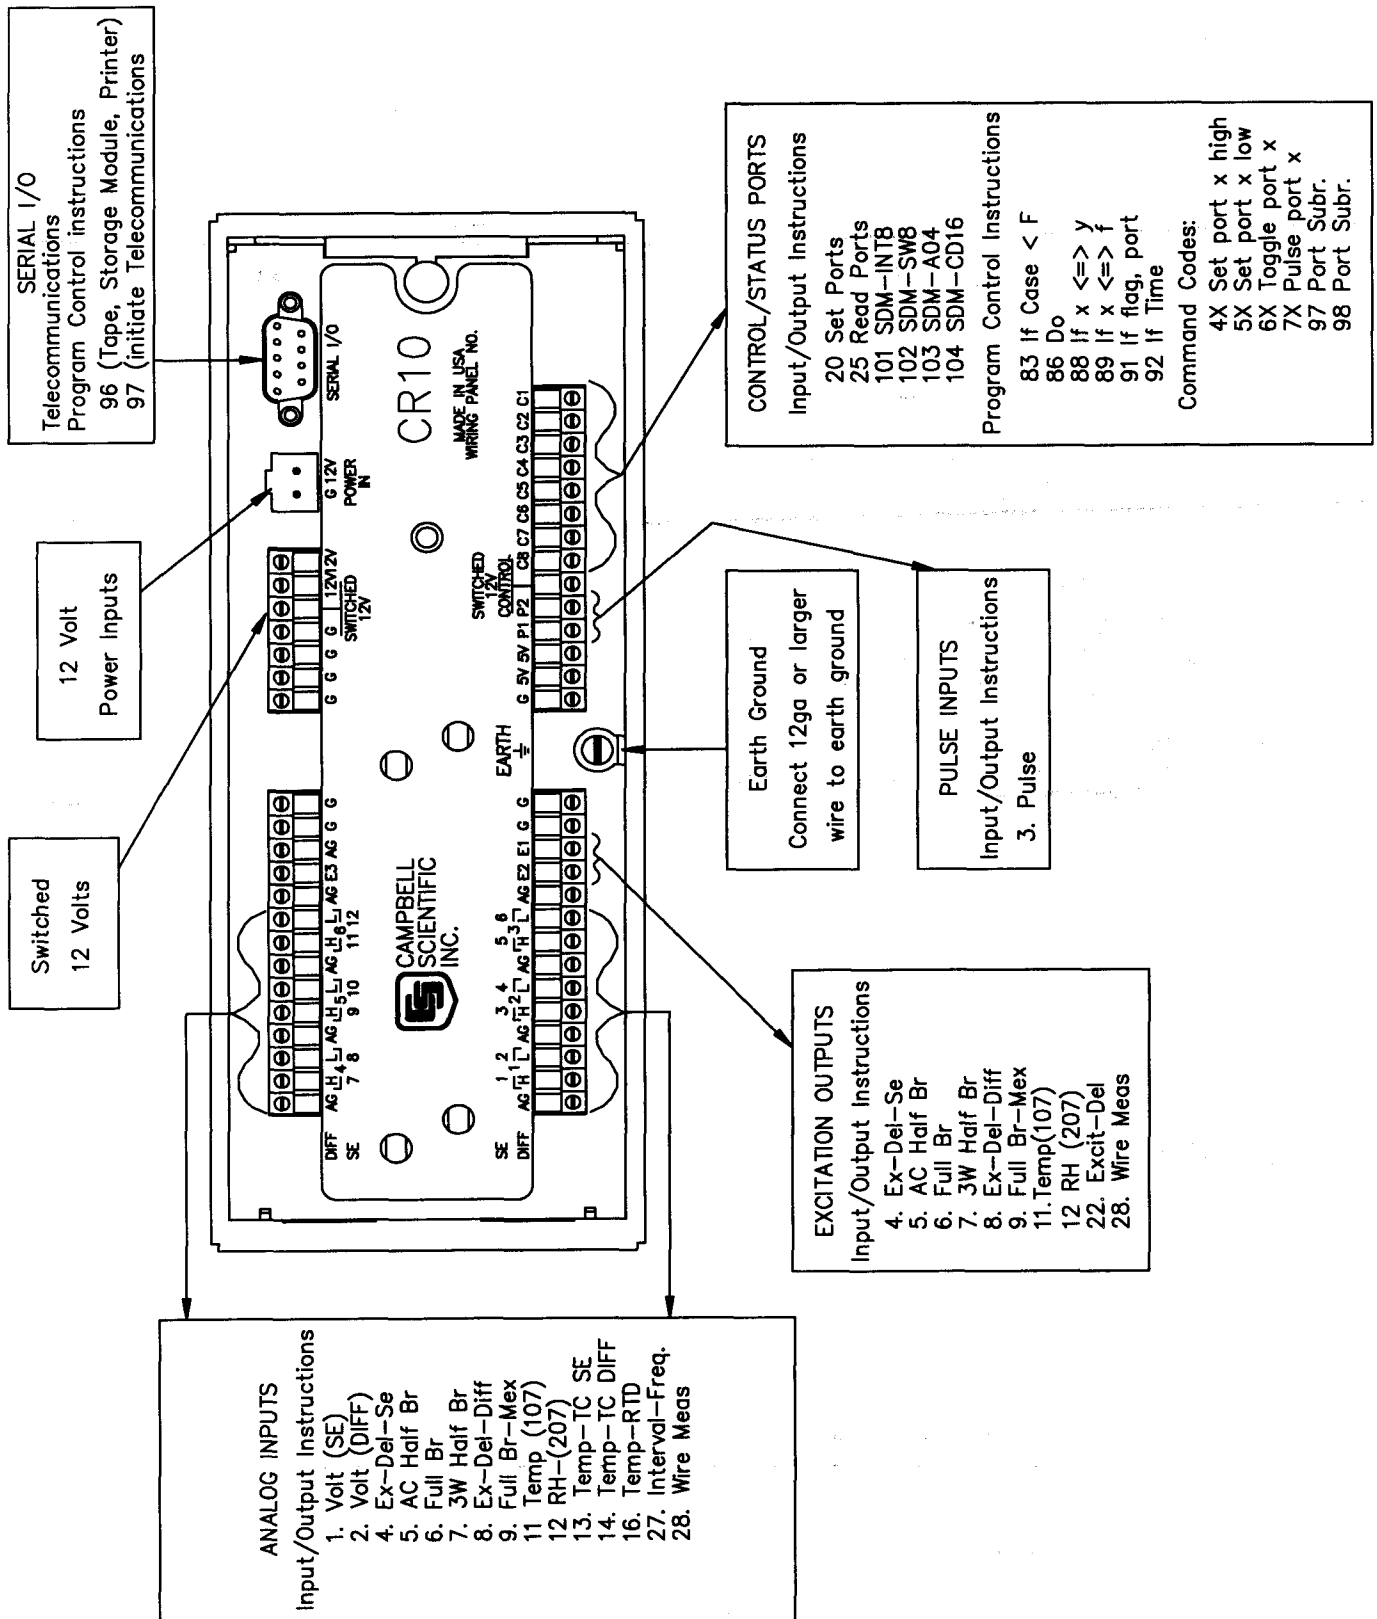

FIGURE OV1.1-2. CR10 Wiring Panel/Instruction Access
The Wiring Panel contains a 9-pin Serial I/O port used when communicating with the datalogger and provides terminals for connecting sensor, control, and power leads to the CR10. It also provides transient protection and reverse polarity protection. Figure OV1.1-2 shows the panel and the instructions used to access the various terminals.
1. **INPUT/OUTPUT INSTRUCTIONS** (1-28, 101-104, Section 9) control the terminal strip inputs and outputs (the sensor is the source, Figure OV1.1-2), storing the results in Input Storage (destination). Multiplier and offset parameters allow conversion of linear signals into engineering units. The Digital I/O Ports are also addressed with I/O Instructions.